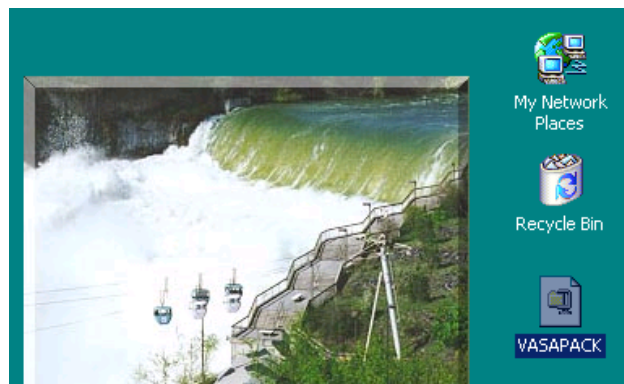

Figure 7: Find the VASAPACK icon on your desktop
Step 7: Now go to your desktop and double click on the **VASAPACK** icon. The name VASAPACK stands for “packed VASA” and now what we are going to do is unpack, also called unzipping or extracting, the program and install it on your computer. On the computer which this sample was created, the desktop and VASAPACK icon looked like figure 7.